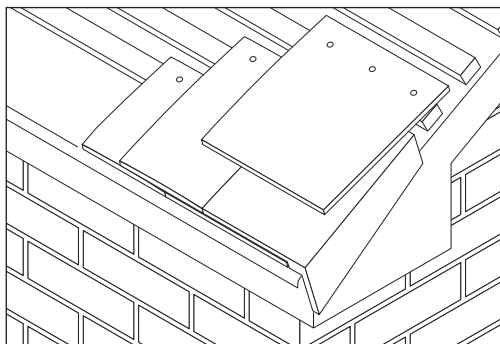

Fig 4 Tile-and-a-half used to break bond
- 6 Each alternate course should contain a tile-and-a-half to break bond and must be twice nailed (Fig 4).